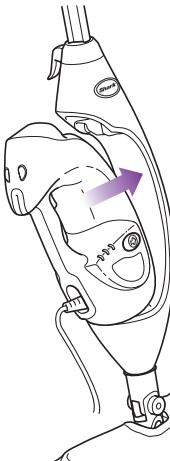

fig. 26
- 1 When you have finished using the Handheld Steamer, reattach it to the mop by first placing the bottom of the Handheld Steamer into the cradle of the mop housing. (fig. 26)